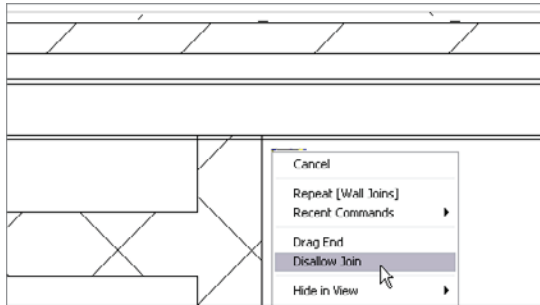

FIGURE 2.60 Pull the CMU out of the wall, disallow the join, and then drag it back into the face of the stud.
4. Select Disallow Join (see Figure 2.60).